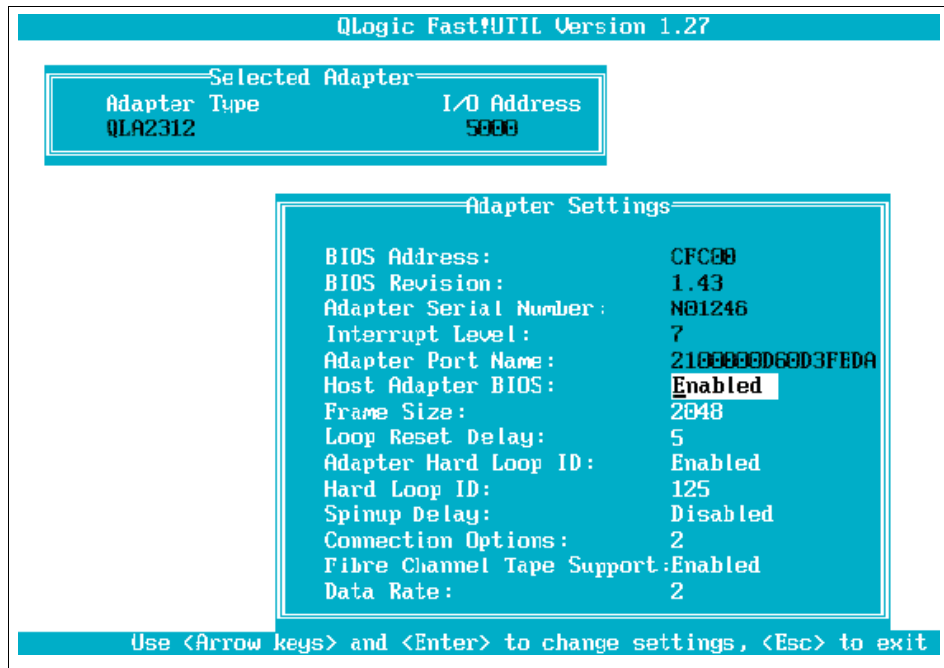

Figure 4-4 FC Host Bus Adapter BIOS menu
5. Change the Host Adapter BIOS to Enabled (Figure 4-4); the default value is Disabled.